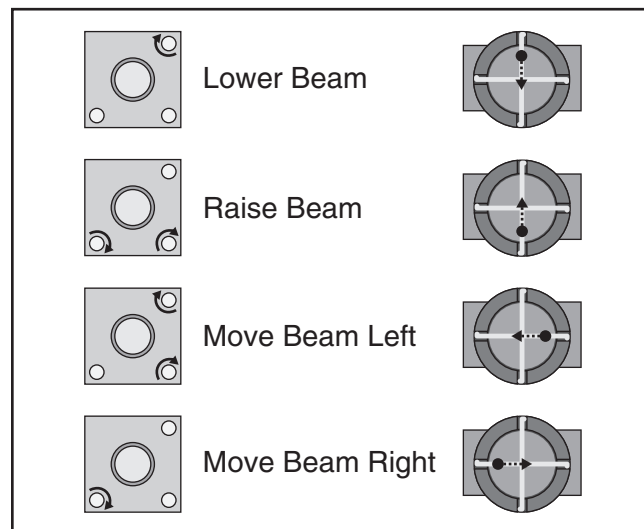

Figure 115. Mirror thumbscrew adjustment.
27. Adjust direction of beam path by tightening thumbscrews depending on desired direction of beam travel (see **Figure 115**).